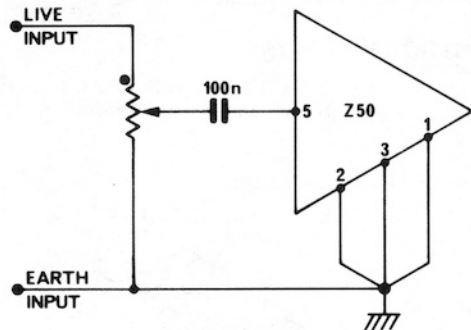

Fig 4.15.1
4.15.1 Simple Volume Control A volume control can be added as shown in fig. 4.15.1. 100K is a suitable value for most purposes but other values such as 47K, 22K, 10K or 5K can be used. It should be a logarithmic type but a semi-log or linear type can also be used.
4.15.2 Simple Stereo Volume and Balance Control This combines two volume controls of fig. 4.15.1 with a balance control and the values can be the same as those in fig. 4.15.1. The volume control should be a dual log type
Output is from points B and earth should be fed to the volume control circuit of fig. 4.15.1, 4.15.2 or 4.15.3, using a value of 100K for the volume control.